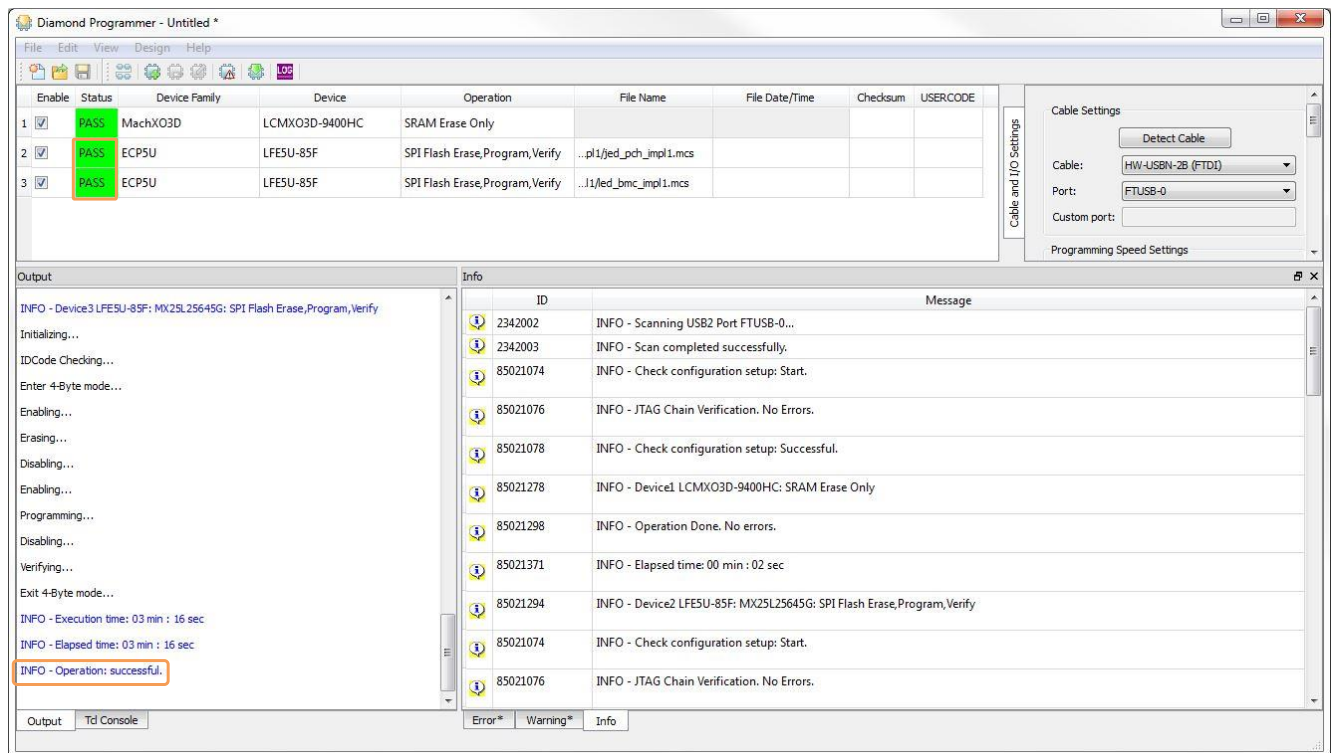

Figure 4.18. Main Configuration Status Output Pane
4. To execute program operation, click the **Program** button in the **Toolbar**. Note that the **SPI Flash Background Programming** operation is only possible when either the ECP5 device is erased or the active design has the **MASTER_SPI_PORT** mode enabled. For more details, see ECP5 and ECP5-5G sysCONFIG Usage Guide \(FPGA-TN-02039\). The operation status information is displayed in the **Output** pane (Figure 4.18).